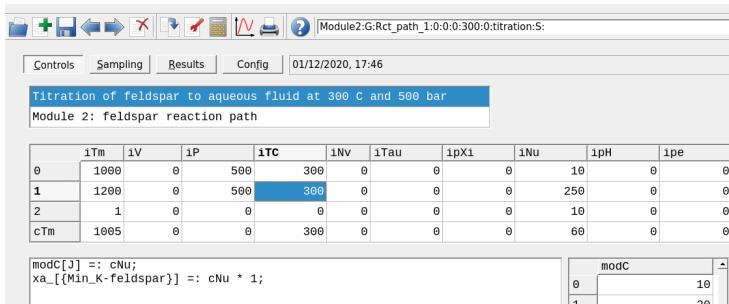

Figure 2.13: The ‘Controls‘ window showing a model set up at a different temperature and pressure.
- In the **Controls** tab change the description of the modeling project and change the temperature to 300 °C and pressure to 500 bar to replace the starting and ending values (Fig. 2.13). Click **Save this record to database**.